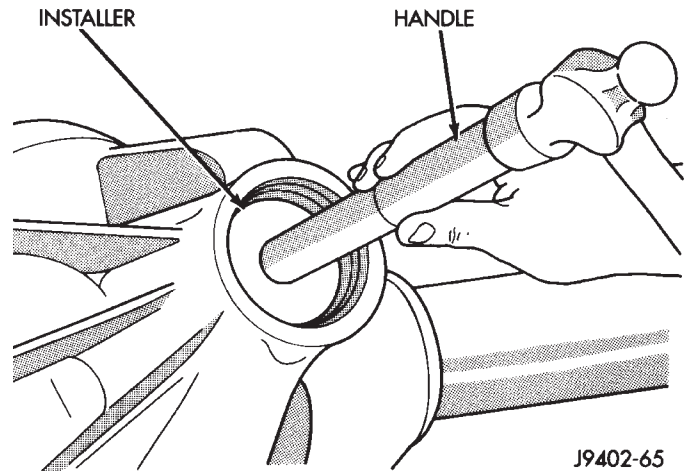

Fig. 42 Pinion Outer Bearing Cup Installation
(3) Apply Mopar® Door Ease, or equivalent, stick lubricant to outside surface of front pinion bearing cup. Install the bearing cup with Installer D-130 and Handle C-4171 (Fig. 42).